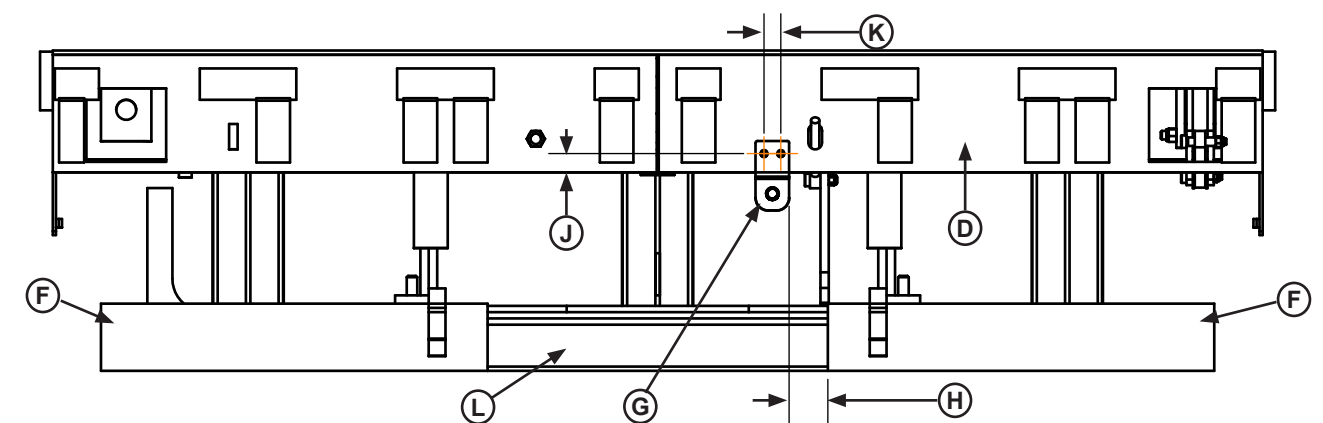

Figure 4
1. Verify that the shipping plate (E) has been removed from the leveler frame. See Figure 4. If the plate remains installed, remove it by cutting the plate on both sides. Two angles should remain at the front of the frame (F).
2. Select a suitable location on the platform header (D) for the mounting bracket (G). Its location should provide a route to the pit junction box for electrical connections and it should not interfere with platform components, the frame, or the pit floor.
- Note:** The bracket should clear the steel frame angles to avoid false detection of the lip plate, when the platform is in the below dock position (H).
3. Clamp the bracket to the header (D) at the chosen mounting location. Bracket holes should be 1-1/8" from the bottom of the header (J). Make sure the holes will not interfere with structural members.
4. Using the bracket as a template, drill two 1/8" pilot holes. Distance between pilot hole centers is one inch (K).